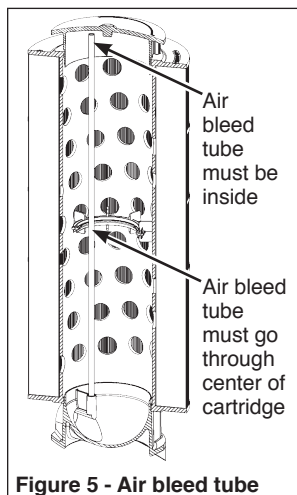

Figure 5 - Air bleed tube
2. Install the filter cartridge in the base of the tank, being careful to avoid the flow diverter in the inlet. Ensure the air bleed tube is correctly installed (Figure 5 on page 13). Push down firmly to seal the cartridge.
1. Install the filter cartridge in the base of the tank, being careful to avoid the flow diverter in the inlet. Ensure the air bleed tube is correctly installed (Figure 5). Push down firmly to seal the cartridge.